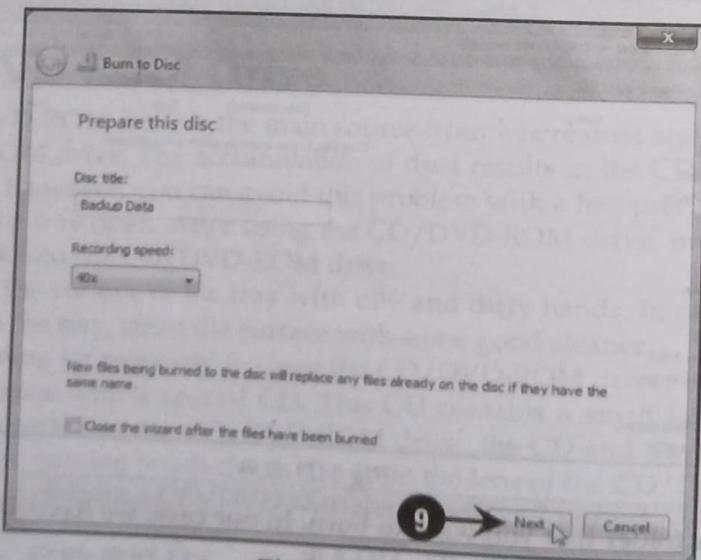

Fig.HD-8.11
The Burn to Disc dialog box appears (Fig.HD-8.11). This dialog box contains the Disc title and Recording speed options, which allows you to type a title for your disk and specify the recording speed, respectively (Fig.HD-8.11). In our case, we have selected Backup Data as the title of our disk and specified 40x as the recording speed.
- Click the Next button in the Burn to Disc dialog box to start the burning process, as shown in Fig.HD-8.11: